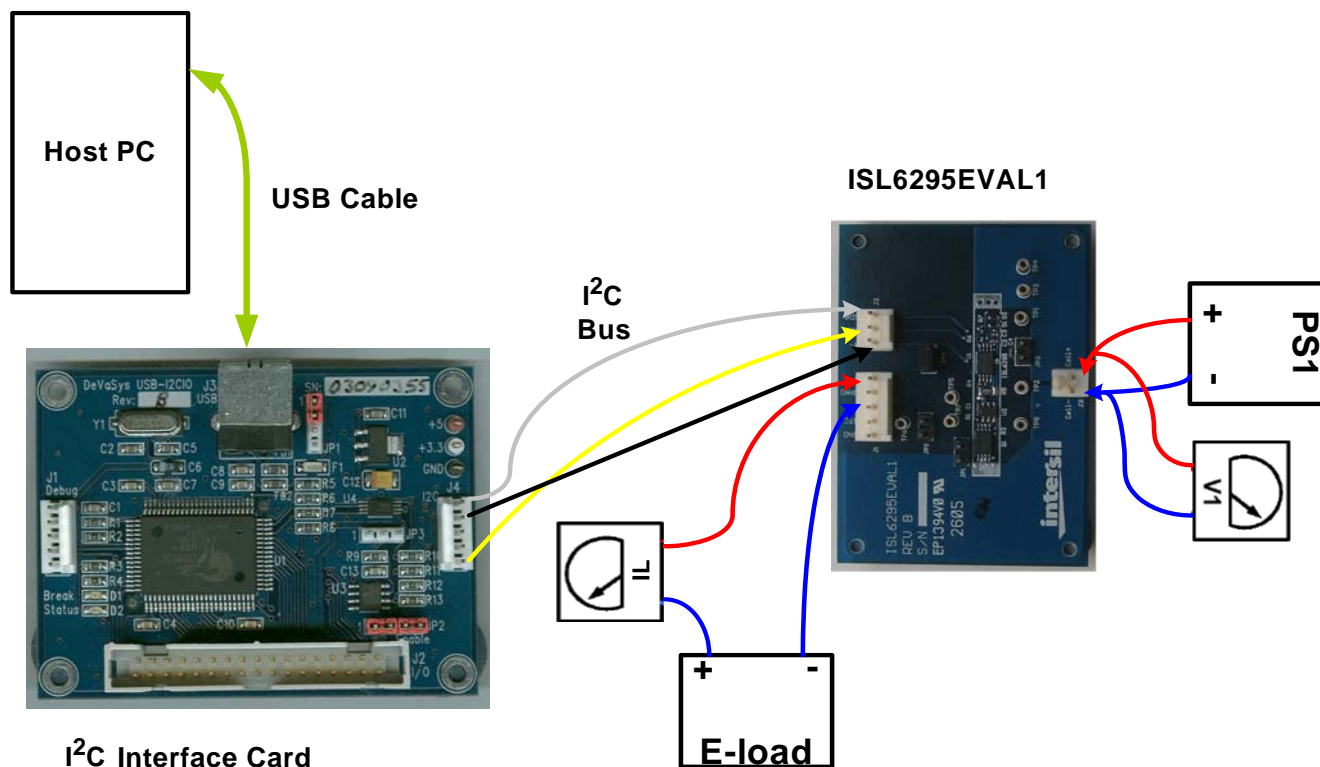

FIGURE 1. CONNECTION OF INSTRUMENTS
- Step 2: Connect the I²C wire harness (provided) between J4 of the I²C Interface card and J2 of the ISL6295EVAL1 as shown in Figure 1.
- Step 5: Connect the ammeter IL and the E-load between B+ and B- pins of J1 as shown in Figure 1. Set the E-load to sink 1.0A current. Follow the Current Measurement procedure in next section to check the current A/D result. The result should be a negative number, indicating a discharge current.